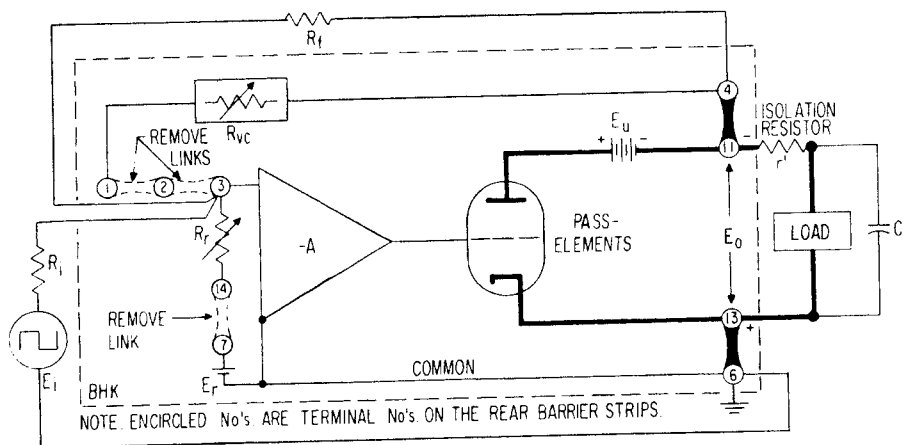

FIG. 3-18 SERIES RESISTOR EXTERNAL FEEDBACK LOOP.
- a) **SERIES RESISTOR EXTERNAL TO FEEDBACK LOOP.** The advantage of this method is that the network equations are not affected. The disadvantage of this method is the rise in output impedance, evidenced by degraded load regulation. (Refer to FIG. 3-18).